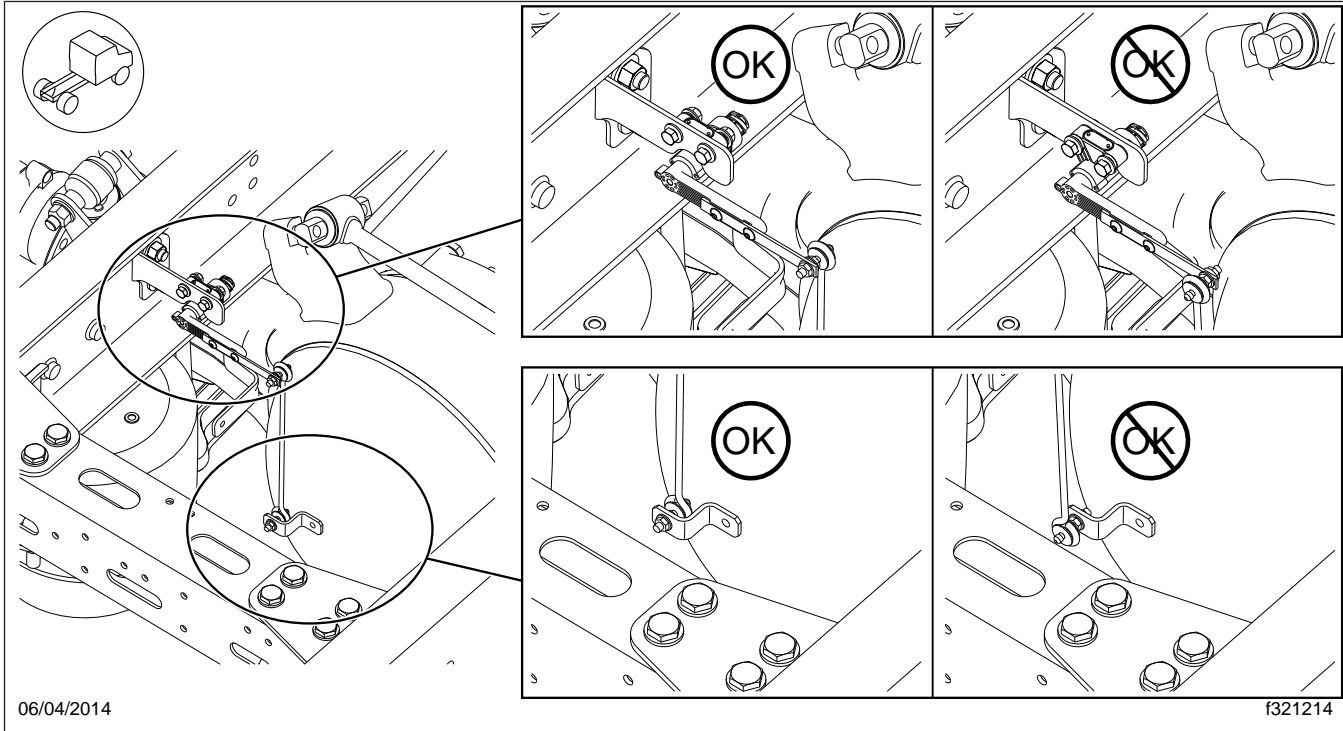
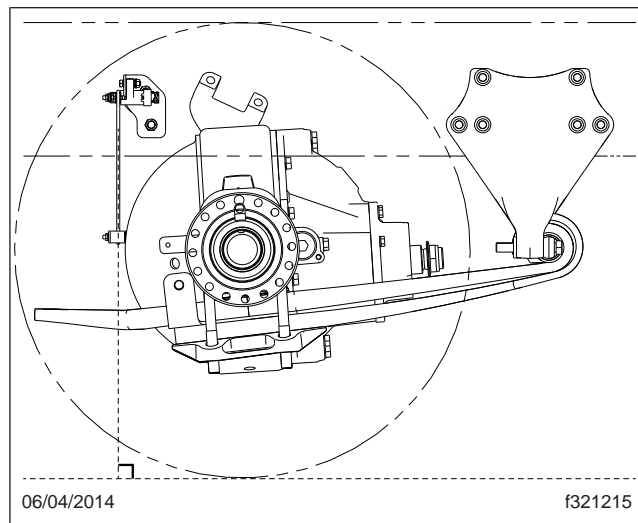

Fig. 1, Inspection of the Ride Height Sensor Installation
Fig. 2, The linkage rod should be perpendicular to the ground.
6. Compare the ride height sensor position of the vehicle to Fig. 1. The sensor should be installed on the forward side of the sensor bracket, and the linkage rod should be on the forward side of the Z-bracket on the axle. The linkage rod should be upright, with no fore-aft tilt, as shown in Fig. 2.
If the sensor or linkage rod are out of position, reposition them to match Fig. 1. While the sensor is off the vehicle, inspect it for damage. If any cracking is found on the arm or body, replace the sensor.
10. Reconnect the linkage, making sure it matches the installation in **Fig. 1**. Turn the key on and use the ECAS remote control to lift the suspension enough to remove the height blocks.